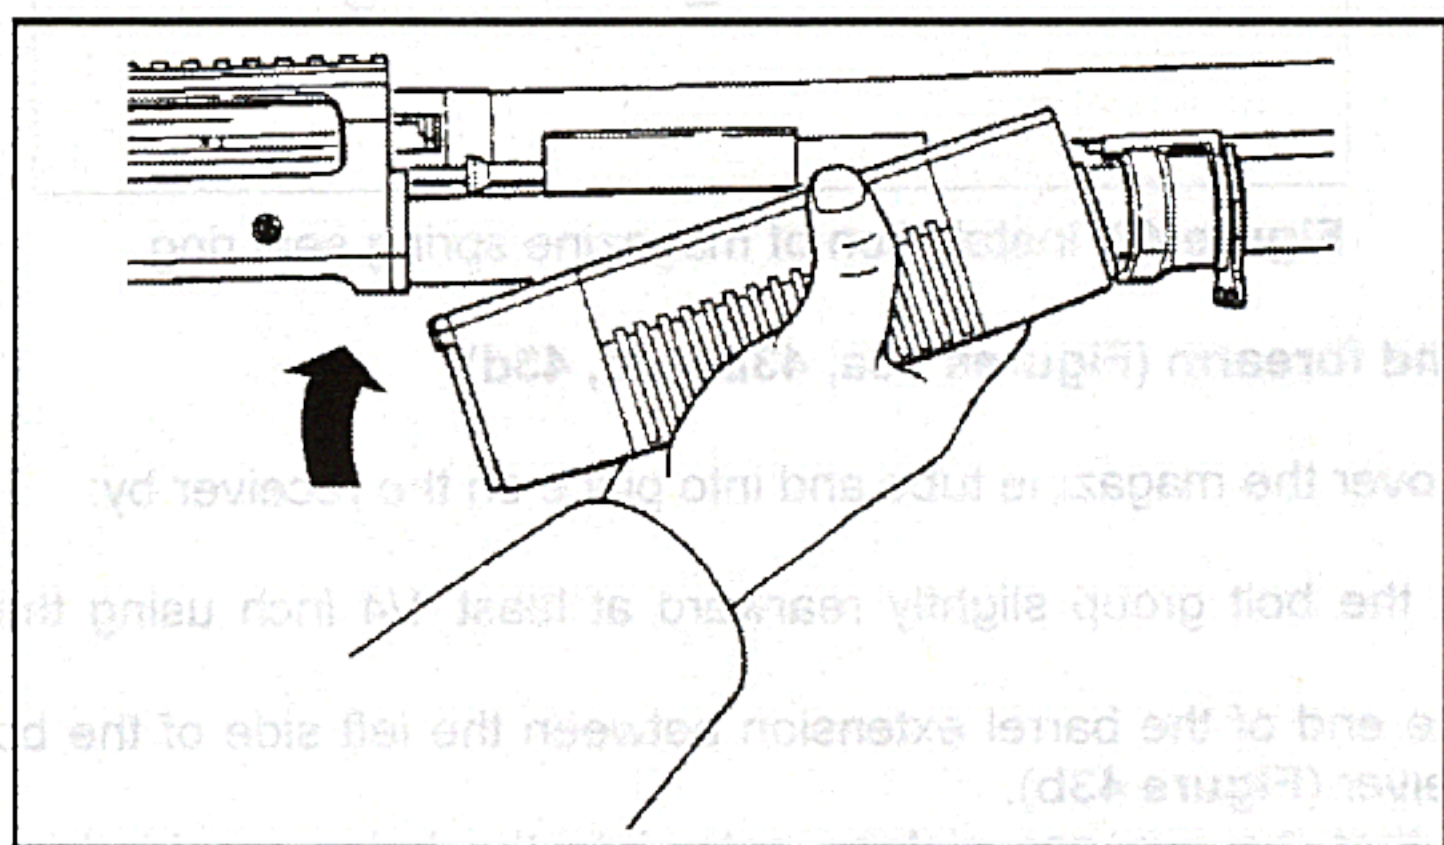

Figure 43c. Installing forearm
- D. Position the right and left halves (they are marked inside) of the forearm together over the magazine tube and barrel. Insert the front tang of the forearm halves (**Figure 43c**) into the forearm-retaining band located on the rear barrel ring (hanger) on the barrel.